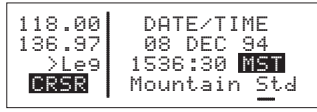

Figure 4-190
2. Turn on the cursor and move it to the time zone field (figure 4-190).